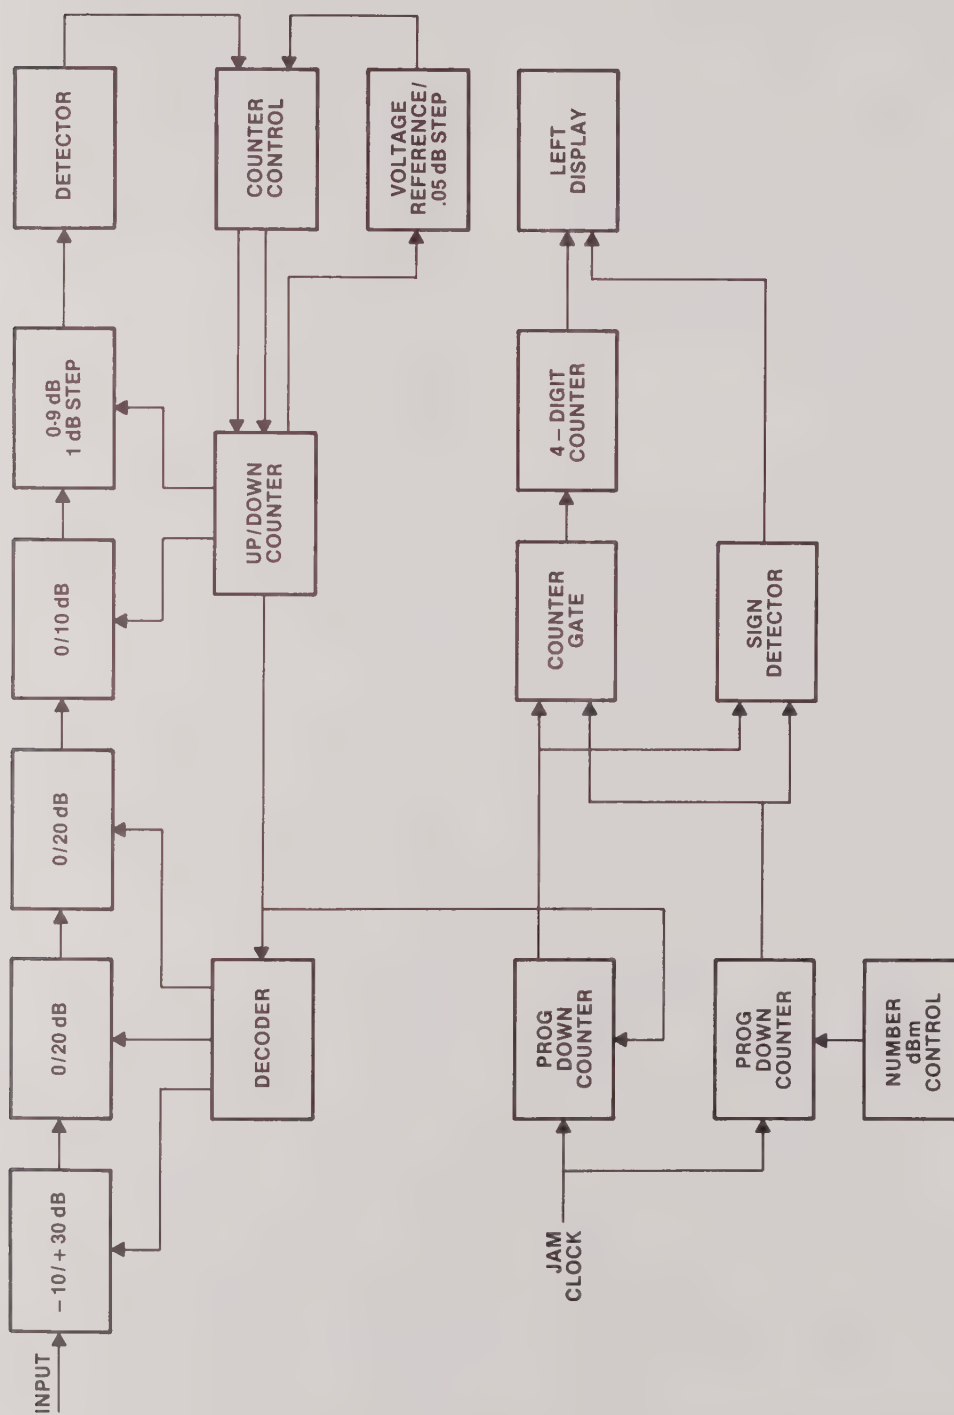

Figure 13. Level Meter Block Diagram
11.9 Refer to Figure 13 for a block diagram of the level meter. The level meter consists of an autorange amplifier, detector, voltage reference, comparator and VCO, and up/down counter. The up/down counter steps the autorange amplifier up or down in 1 dB steps from 0 dB to 99 dB. The result is a log converter with wide dynamic range and extended high frequency response. The up/down counter also steps the voltage reference in 0.05 dB steps to complete the logarithmic measurement of the ac signal with 0.05 dB resolution. The resulting up/down counter state is digitally scaled to produce the correct level reading on the display.